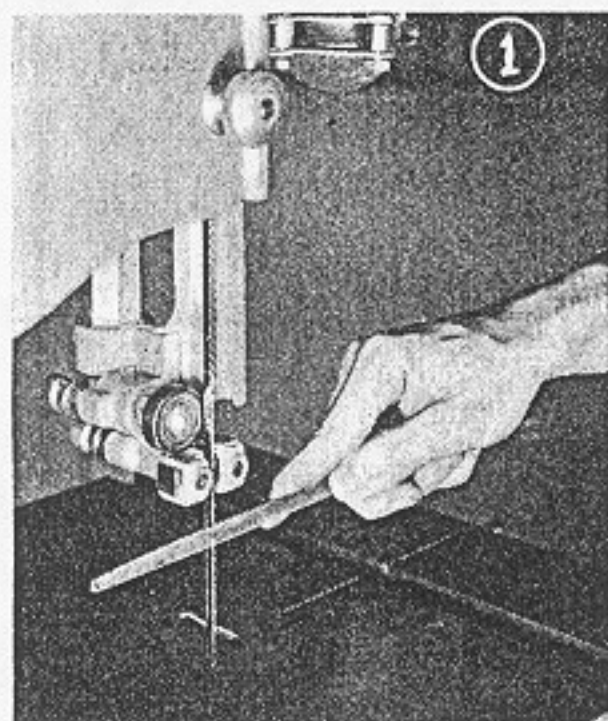

Fig. 1 —Touching up the blade while inverted in the band saw.
Addition. John Doe starts pay-check problem with abacus cleared: all beads above crossbar pushed up, all below pushed down. Arrow between second and third columns from right marks decimal point. A top bead (5) in fourth column from right is pushed down (Figure 1) to enter on abacus his weekly wage: \$50.00. To add overtime pay—\$15.04—Doe pushes up four lower beads (1 each) in righthand column, pulls down an upper bead (5) in first column to left of decimal, pushes up a lower bead (1) in next column to left. Total (Fig. 2): \$65.04.